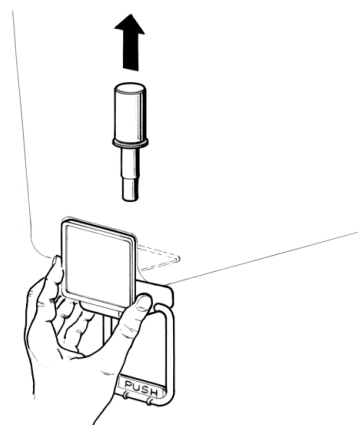

figure 2
- 5 **Gravity faucet:** extract the piston and then remove the dispensing handle (see figure 2).